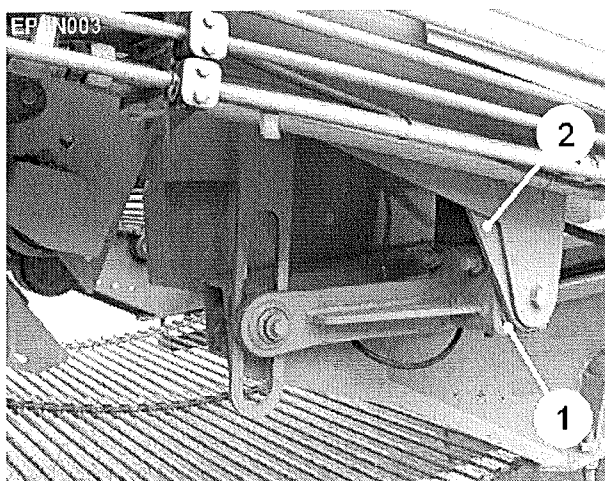

Fig 5
The RH digger chassis member is mounted at the rear on a flexible suspension unit (item 1, figure 5). The suspension unit applies some downward pressure and also allows the digger chassis to follow the independent movement of the depth wheels. Pressure adjustment is made by means of the quadrant plate (item 2, figure 5). Rotating the quadrant plate in an anti-clockwise direction will reduce the pressure. Rotating the plate in a clockwise direction will increase the pressure.